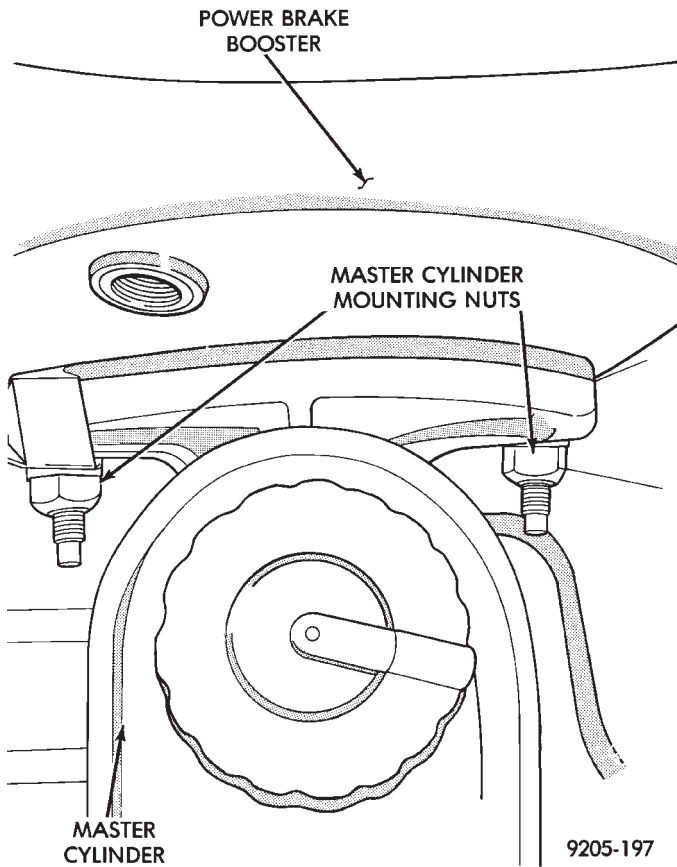

Fig. 4 Master Cylinder Mounting
Remove 2 nuts (Fig. 4) attaching master cylinder housing to power brake booster unit.
(2) Install master cylinder to power brake unit attaching nuts (Fig. 4) and tighten to 28 N•m (250 in. lbs.).
(3) Connect brake tubes to master cylinder outlet ports. Tighten the brake tube to master cylinder fittings to 17 N•m (145 in. lbs.).